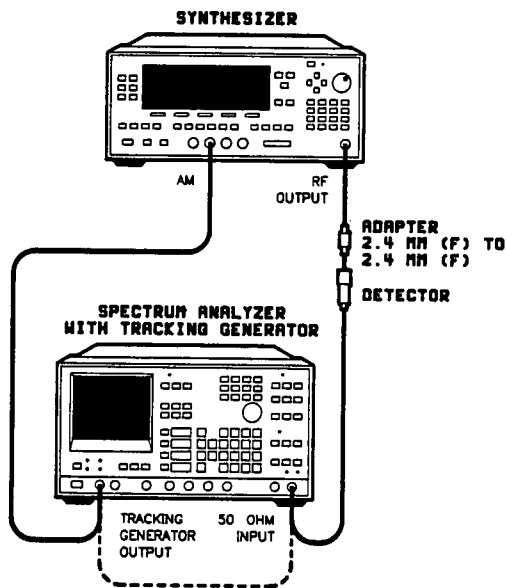

Figure 2-23. AM Bandwidth Test Setup
1. Connect the equipment as shown in figure 2-23 with the tracking generator output connected to the 50 ohm input of the spectrum analyzer. Press **PRESET** and let the equipment warm up for at least one hour.